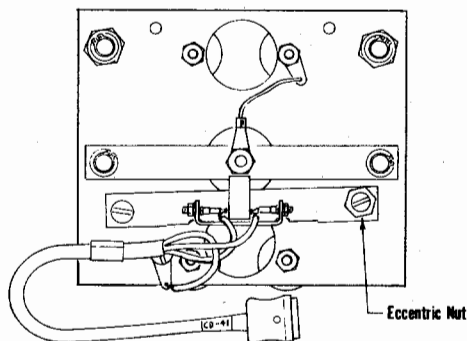

Figure 6. Trim Sensor
- *9. If steps SEVEN and EIGHT cannot be accomplished, it is necessary to adjust the trim sensor contacts. Loosen the BOTH screws of the Contact Support Bar. (See Fig. 6.) By rotating the Eccentric Nut (found under the one screw) it is possible to center the contact points as required. After adjusting the Eccentric Nut, lock contact points in position by tightening the BOTH screws of the Contact Support Bar. REPEAT steps 6 through 8.